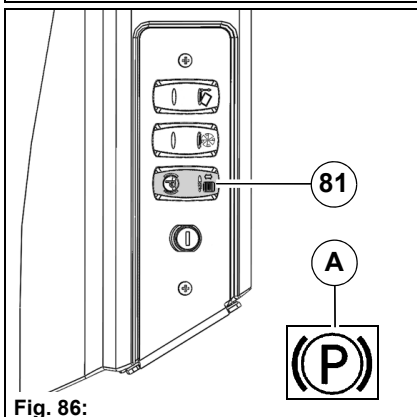

Fig. 86:
- The warning symbol **Fig. 86-A** appears in the multifunctional display.
Press the switch **Fig. 87-81**. The parking brake is released again. With the parking brake released the warning light **Fig. 86-A** goes out.